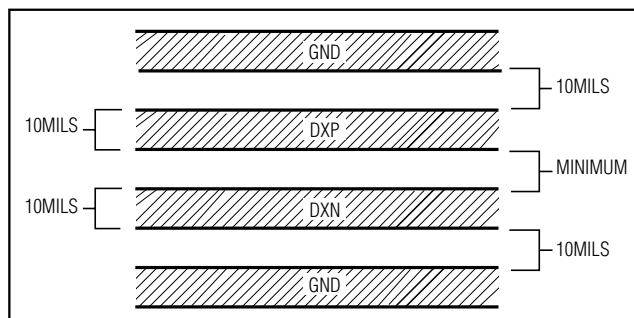

Figure 2. Recommended DXP/DXN PC Traces
- 4) Connect guard traces to GND on either side of the DXP-DXN traces (Figure 2). With guard traces in place, routing near high-voltage traces is no longer an issue.
- 7) Use wide traces. Narrow traces are more inductive and tend to pick up radiated noise. The 10mil widths and spacings recommended in Figure 2 aren't absolutely necessary (as they offer only a